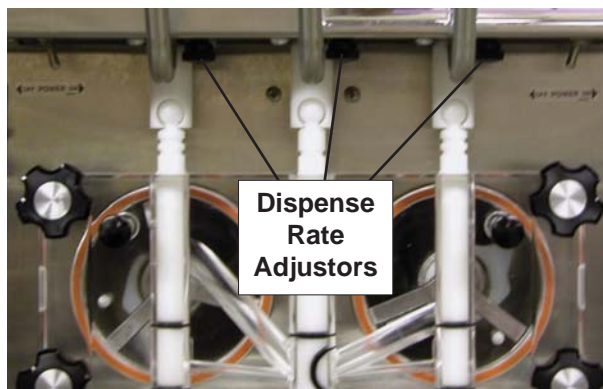

Figure 3-14 Dispensing Product
12. The machine dispenses product at a reasonable draw rate. If the machine is overdrawn, the result is a soft product or a product that will not dispense at all. If this occurs, allow the machine to run for approximately 30 seconds before dispensing more product. Spigot rate adjusters are located under the header panel, to the immediate right of each spigot handle (Fig. 3-14). Turning the spigot rate adjuster counterclockwise will decrease the dispense rate.